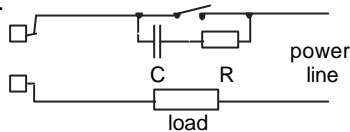

Fig. 10 EXTERNAL SWITCH IN SERIES WITH THE INTERNAL CONTACT
The same problem may occur when a switch is used in series with the internal contacts as shown in Fig. 10.
In this case it is recommended to install an additional RC network across the external contact as show in Fig. 10. The value of capacitor (C) and resistor (R) are shown in the following table.